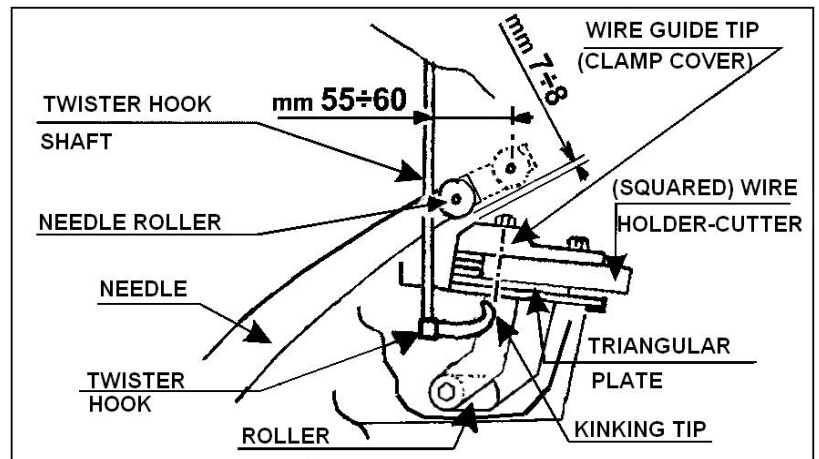

Fig. 24
The head of the bale that has formed advances along with the wire, which is held at one end by the squared wire holder cutters (Fig. 24): this wire is unwound from the containers that house the coils.
2. During step 1, the needles leave the top side of the compression chamber and take the wire to the twister hooks (kinking tips) and to the wire holder cutters - (Fig. 24).